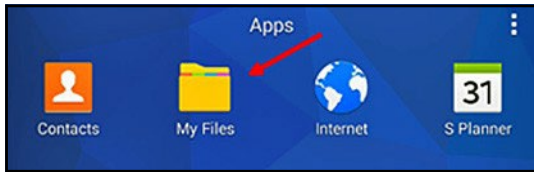

Figure 55: The “My Files” Folder
1. Open the “My Files” folder on the tablet screen and select the APP from the SD folder (see Figure 55 below).